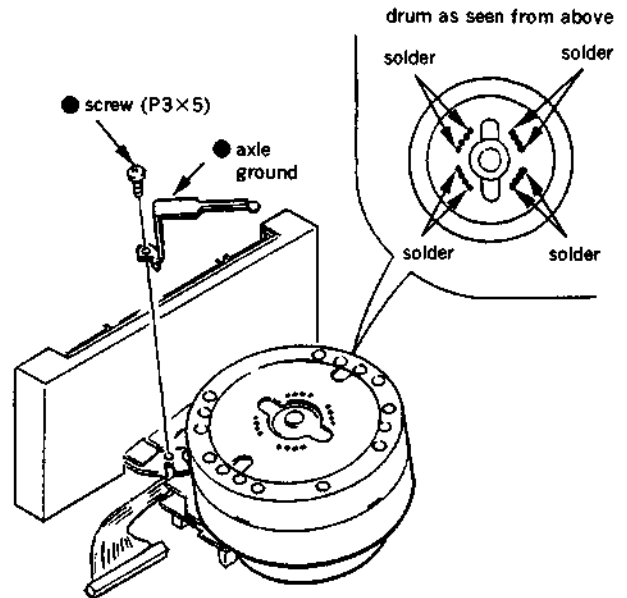
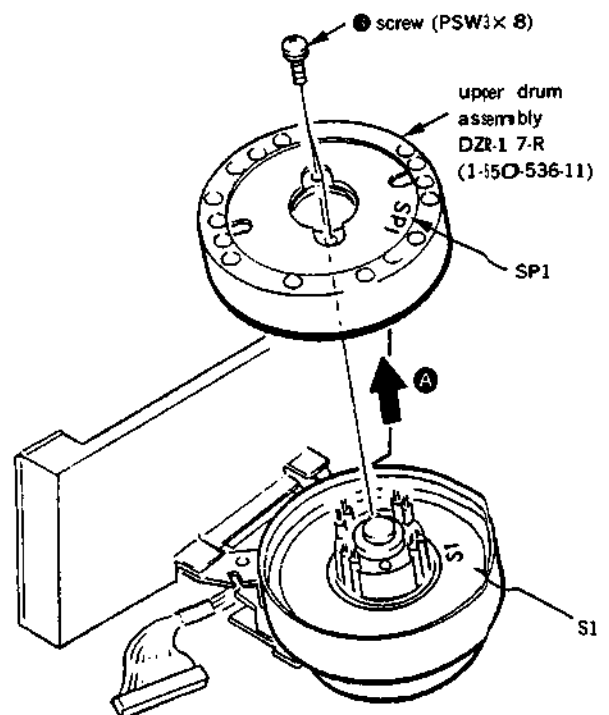

Fig. 1-4
Fig. 1-5
- ① Refer to Fig. 1-4 to remove the screw ● (P3×5) and then remove the axle ground.
- ② Completely remove the revolving upper drum PC board and the solder at sixteen points as shown by the arrows.
- ③ Refer to Fig. 1-5 to remove the two screws ④ (PSW3×8) and remove the revolving upper drum in the direction shown by arrow A. If the drum proves difficult to remove, try tilting slightly backward and left and right.
- ① When inserting the revolving drum in the lower drum, be very careful not to leave fingerprints or other soiling on the contact surface.
- ② Refer to Fig. 1-5 and make sure SP1 on the revolving upper drum PC board is aligned in the same direction as S1 on the rotor transformer PC board (lower drum side). Attach so that the holes on the upper and lower drums are aligned with each other.
- ③ If it proves difficult to attach the drum, attach while moving the drum slightly backward and forward and left and right.
- ④ Refer to Fig. 1-5 to tighten the two screws ④ (PSW3×8).
- ⑤ Solder the sixteen locations on the PC board from the revolving drum.
- ⑥ Tighten screw ● (P3×5) so that the protruding portion on the end of axle ground ② is in contact with the center of the drum axle.
**Caution:** When attaching the axle ground ② be careful not to apply pressure to the spring section of the axle ground.